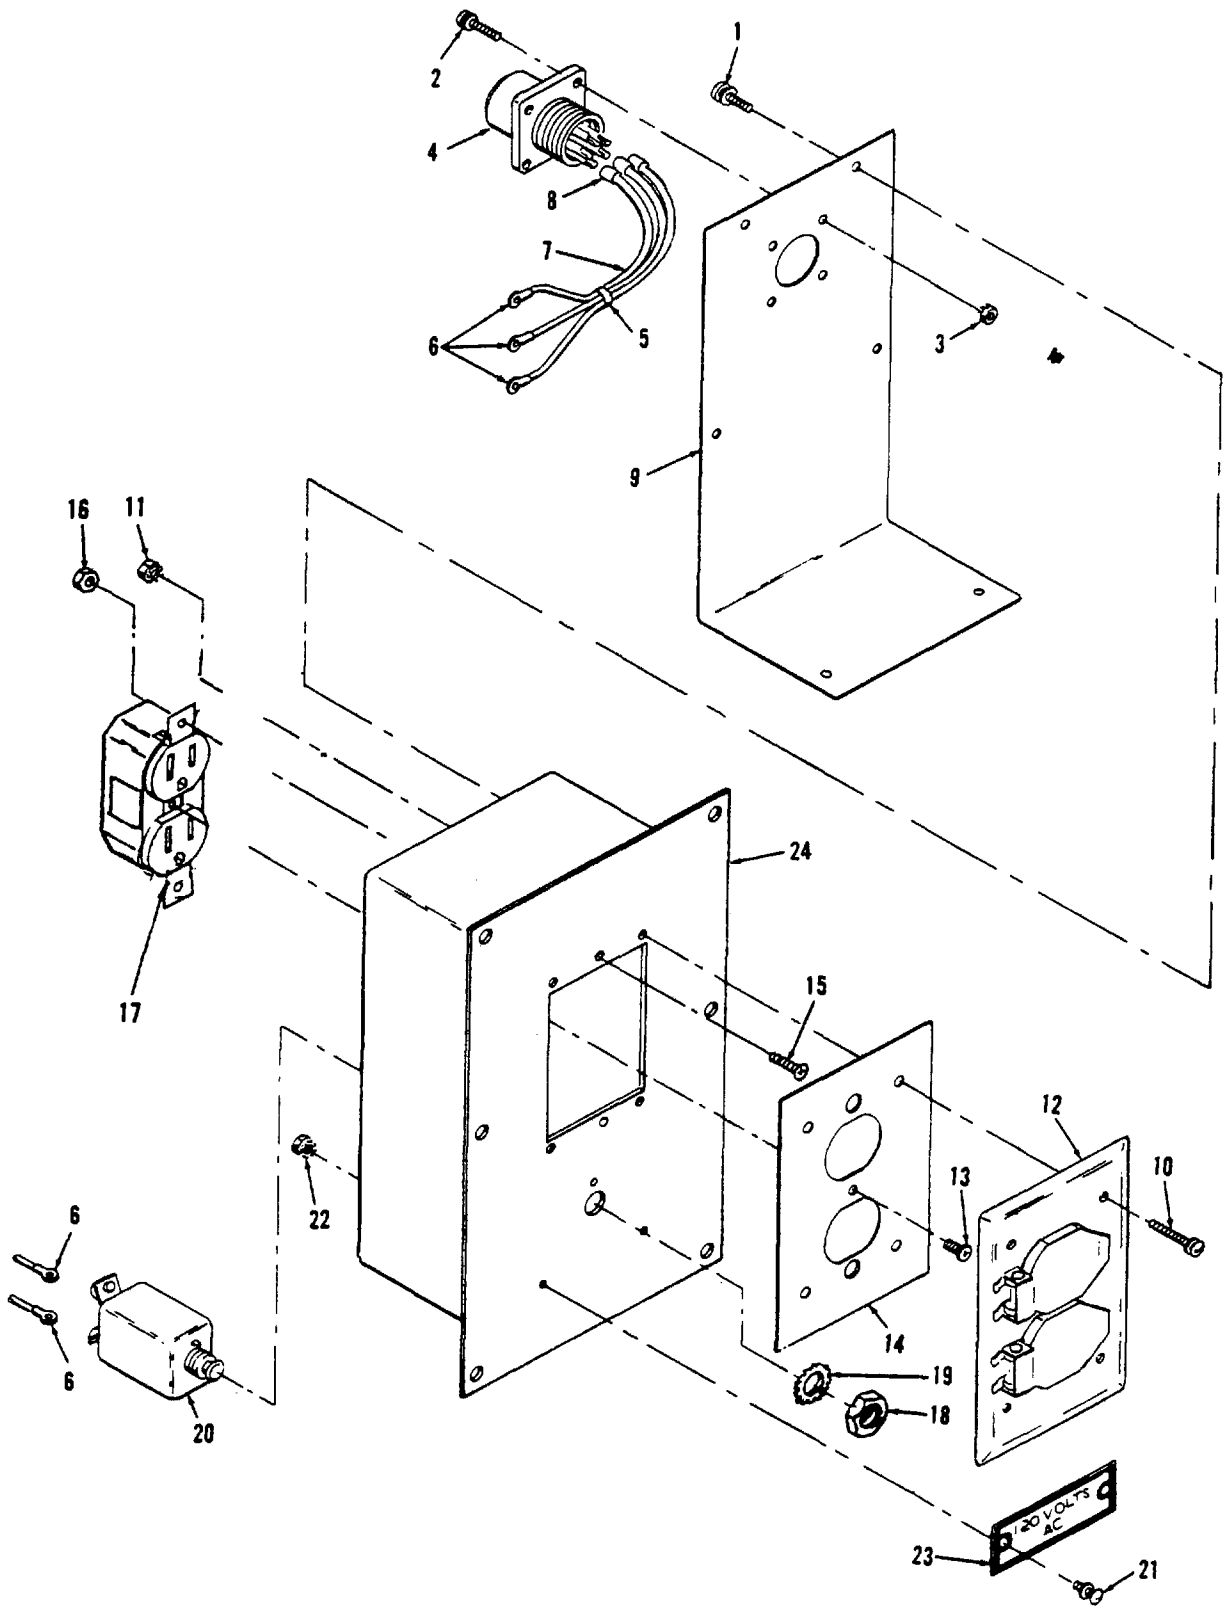

Figure 4-42. Convenience Receptacle Assembly, Exploded View
c. Disassembly. Refer to figure 4-42 to disassemble the convenience receptacle assembly. Pay particular attention to the following:
- (1) Remove six screw assemblies (1) and separate the cover (9) from the housing (24).
- (2) Tag and disconnect wires from circuit breaker (20) and the duplex receptacle (17).
Legend for Figure 4-42
- (1) Repair defective wiring (refer to FO-1).
- (2) Straighten dented or distorted sheet metal parts using proper tools.
g. Reassembly. Refer to figure 4-42 and reassemble convenience receptacle assembly. Pay particular attention to the following:
- (1) Connect wires in accordance with FO-1.
- (2) Install connector plug (4) with keyway up.